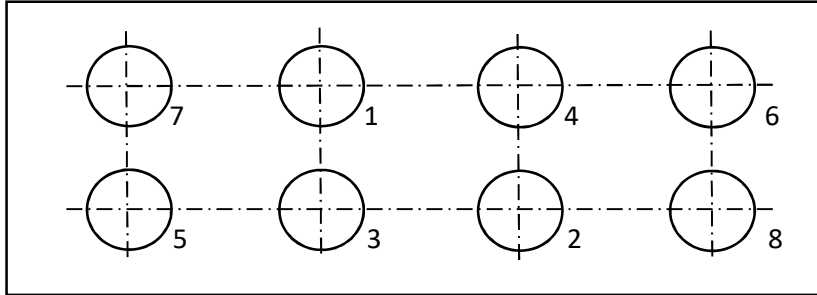

Figure 5. Screws tightening order diagram
- Loosen the glanded nuts (16) and remove the frame.
- Clean frame elements, apply the gaskets and the glass and then assemble the frame. Tighten the screws alternately, gently and evenly. The screws tightening torque max. 30 Nm. In the case of 705.2, 705.3, 705S and 703 frames, tightening of screws is shown in the attached sketch (Figure 5).
- Pegs of a ready-assembled frame should be placed in glanded chambers (first, place sealant in chamber). Initially seal the connection with nuts(16) and then insert the frame (17) on the liquid level indicator's head.